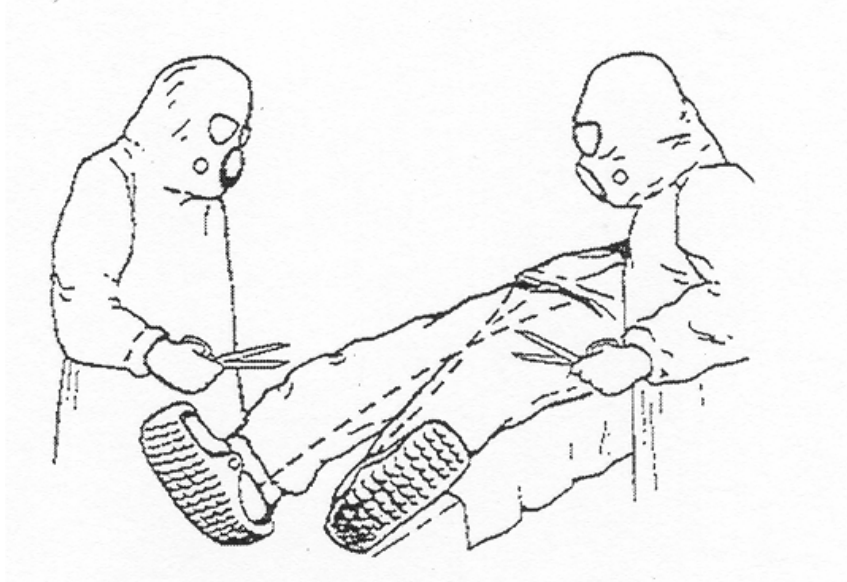

Figure 3-4. Removing protective overgarment trousers.
- (1) Cut the trouser legs from the ankle to the waist. Keep the cuts near the inside of the legs, along the inseam to the crotch (see Figure 3-4).